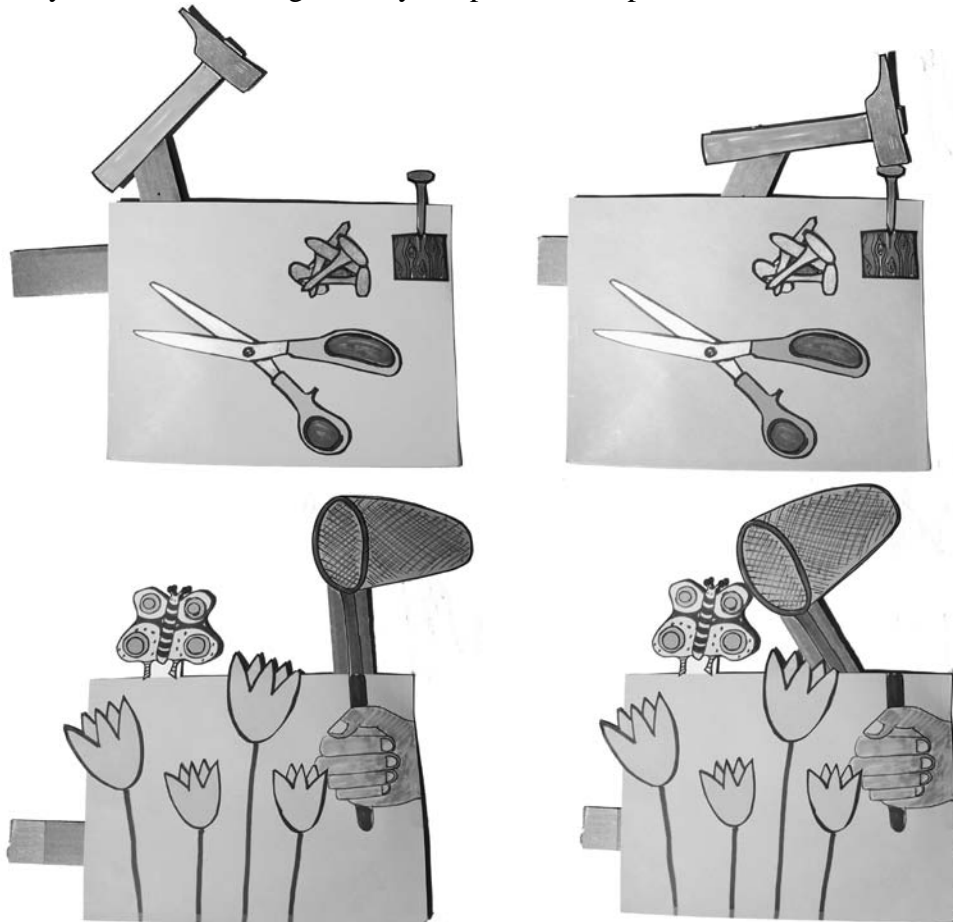

Figure 1: Hammer and Butterfly MechAnimations
1. **Demonstration of the Butterfly and the Hammer:** Demonstrate the Butterfly and Hammer MechAnimations several times each (see Figure 1). Ask students to identify the input of each MechAnimation, and then label each input with a colored Post-IT™ or marker. Then ask them to describe the story each one is telling, when you operate the input.